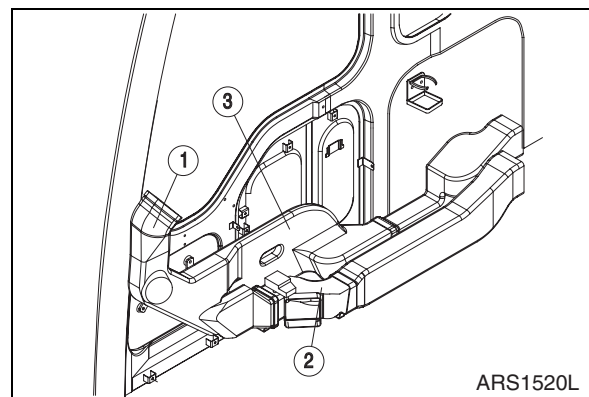

Figure 3
16. Remove air duct (1, 2 and 3, Figure 3) located at right side of cab. Disconnect duct wiring connector before removing duct (2).